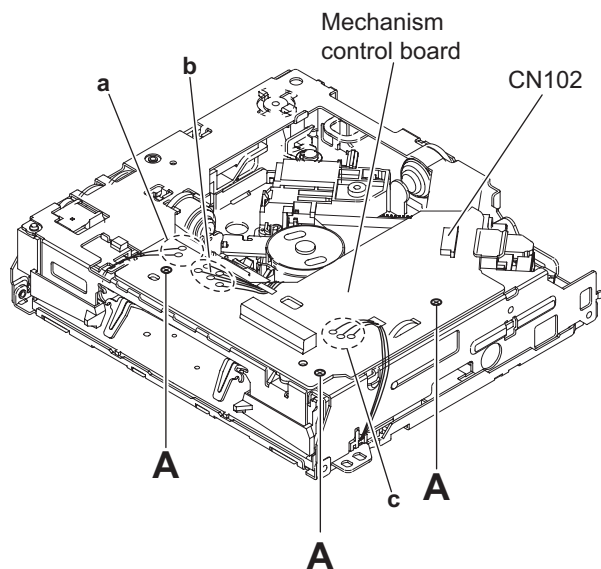

Fig.1
3.2.1 Removing the MECHANISM CONTROL BOARD assembly (See Fig.1 and 2)
- (1) From the bottom side of CD MECHANISM assembly, remove the solders from the soldered sections (a, b and c) on the MECHANISM CONTROL BOARD assembly. (See Fig.1.)
- (2) Remove the three screws **A** attaching the MECHANISM CONTROL BOARD assembly. (See Fig.1.)